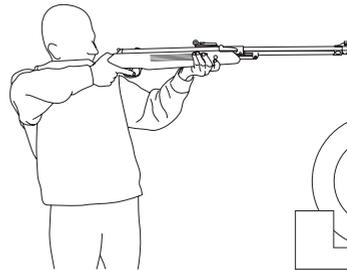

Fig. 12
- Sight in\*, disengage safety and get ready for shooting. (Fig. 12)